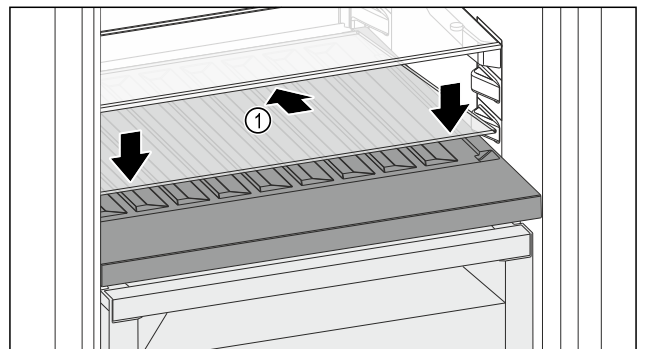

Fig. 93
- ▶ Place the glass shelf Fig. 93 (1) at an angle, sloping it downwards and backwards.
- ▶ Lower the glass shelf Fig. 93 (1) at the front.